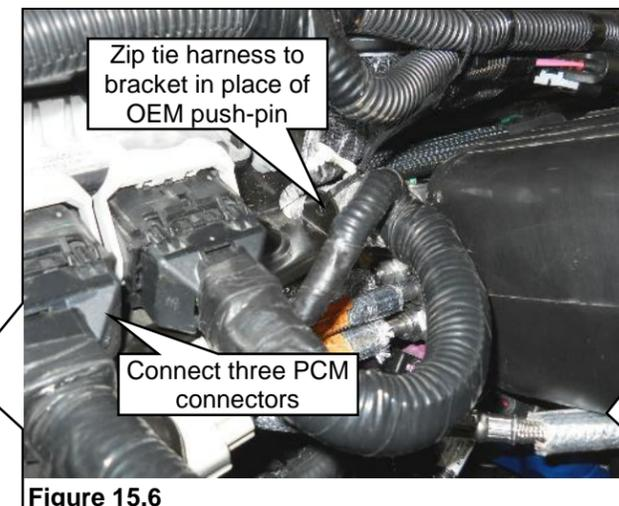

Figure 15.6
15. If the PCM is available and re-attached, connect the three PCM connectors and lock in place. Use a zip tie to secure the harness of the inner PCM connector. Tie the harness to the bracket in place of the OEM push-pin of the harness. **Figure 15.6.**